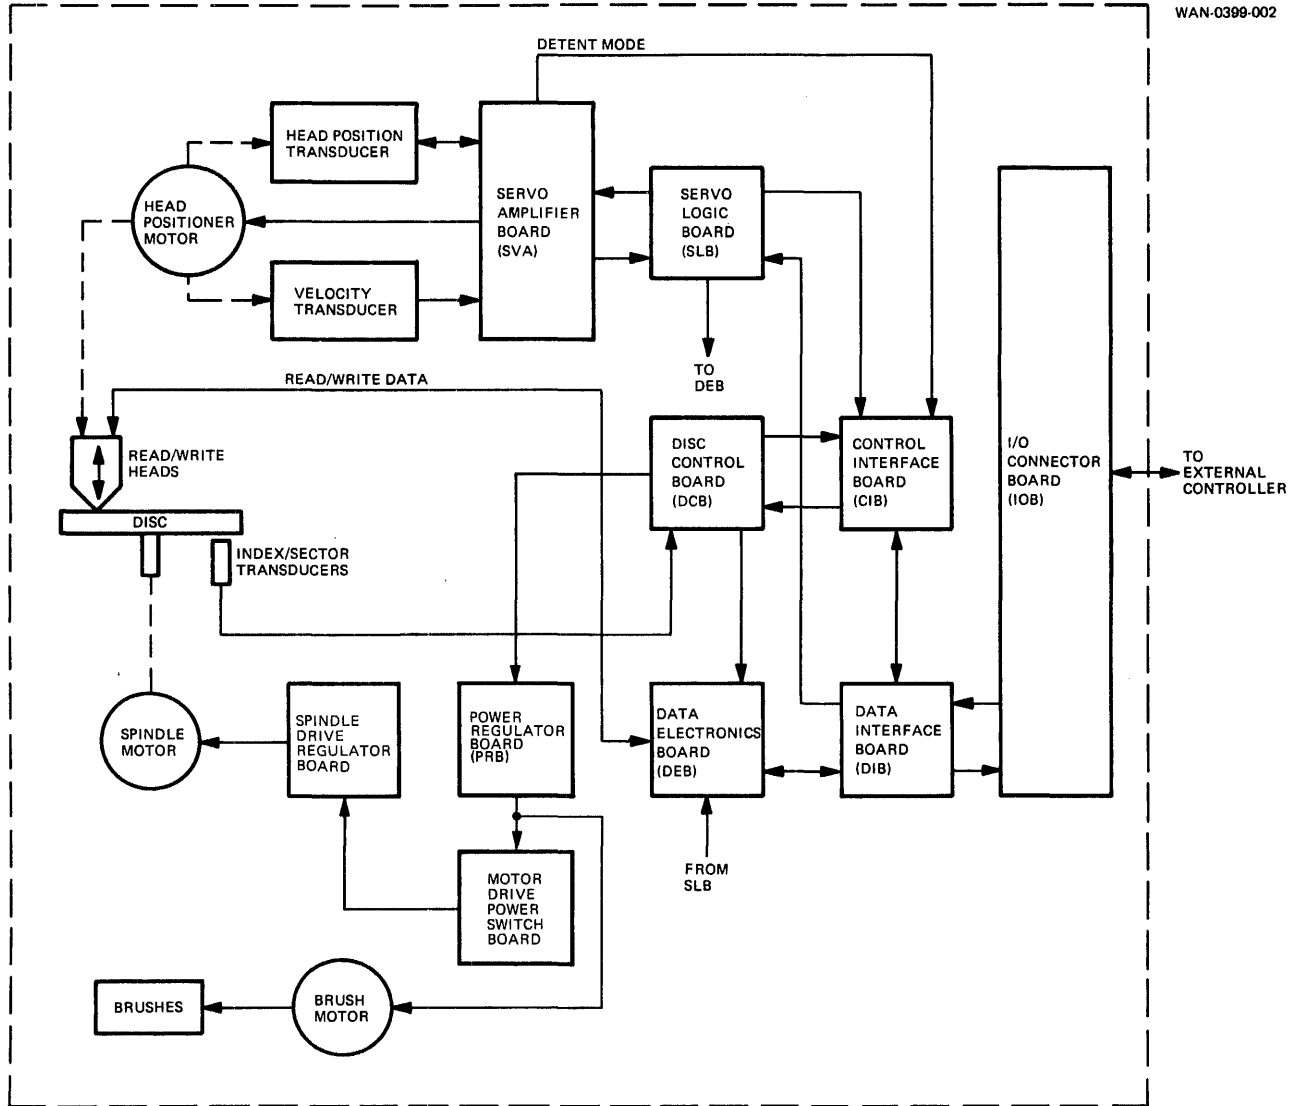
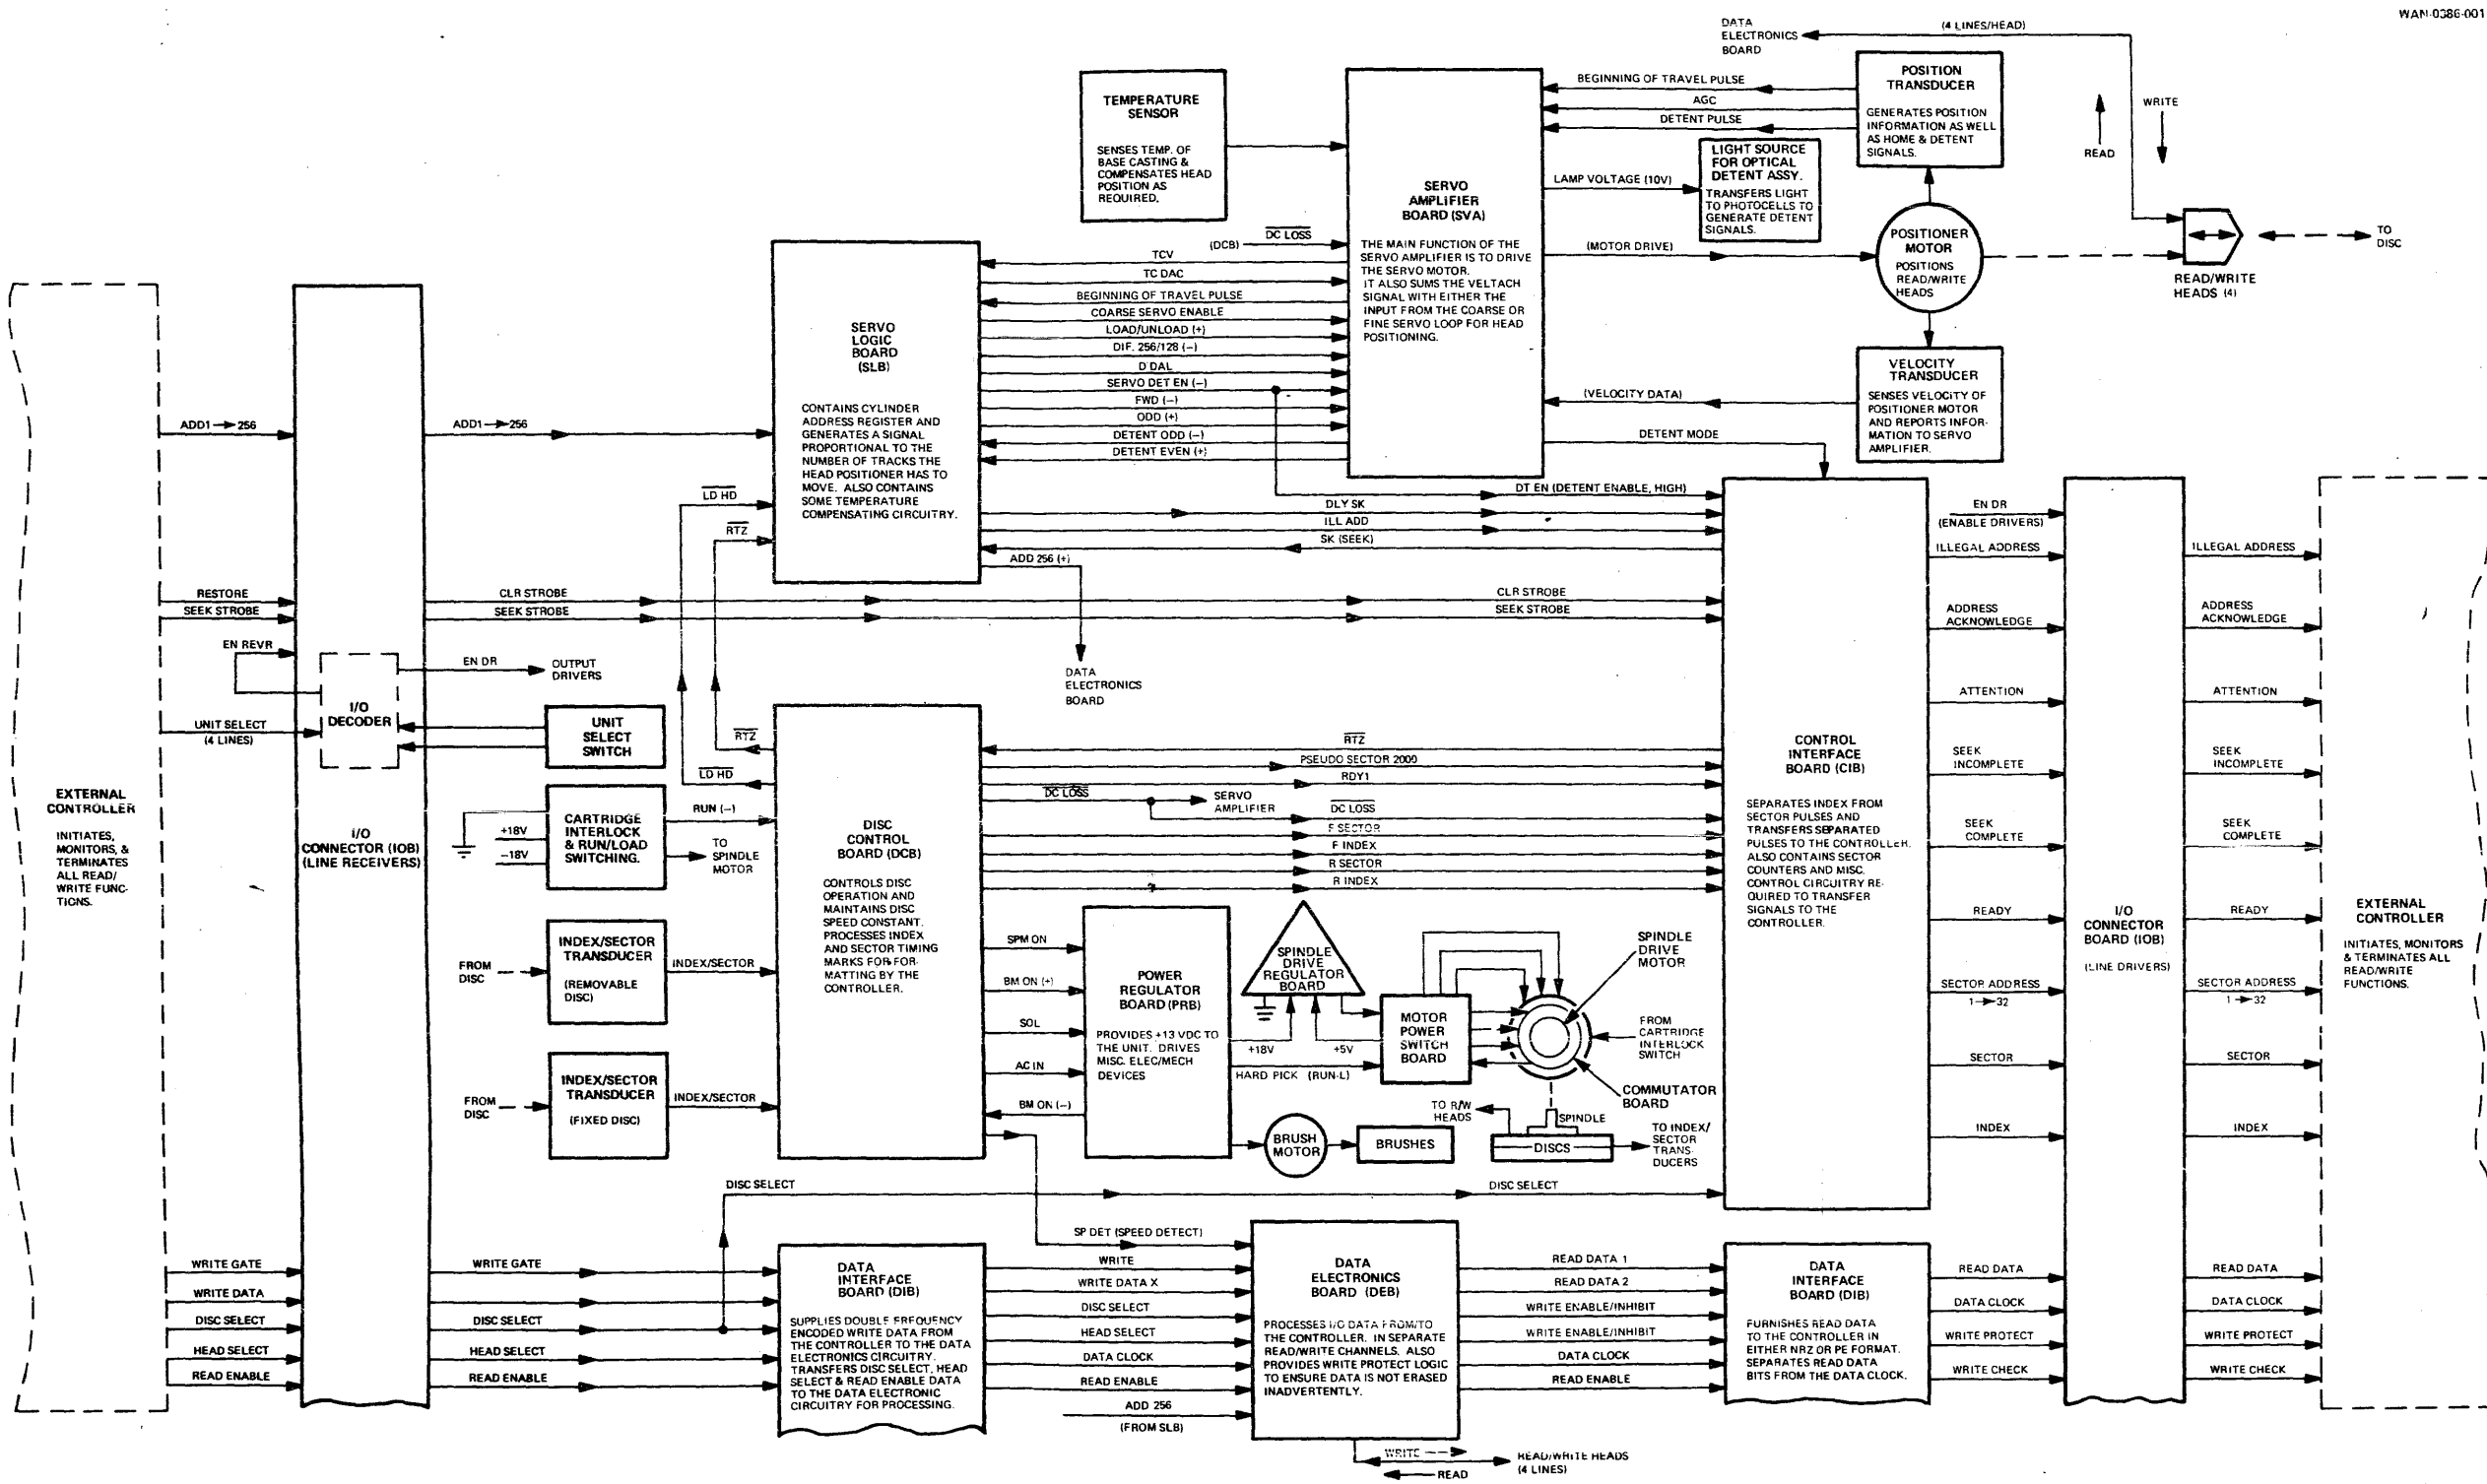

Figure 4-1. Simplified Block Diagram
Figure 4-7. Block Diagram – 100/200 TPI Disc Drive (major signal lines)
This section is divided into two principal parts: the mechanical operation theory and the electronic theory. Explanation of the mechanical features is included as a prerequisite to the theory of operation of the electronic circuits. The electronic theory portion of the section is further subdivided into a basic discussion of the system and is keyed to a functional block diagram followed by a circuit analysis of each major circuit board. The basic block diagram of the Disc Drive is shown in Figure 4-1.
4.4.1.2 Introduction to Circuit Theory. Figure 4-7 is a functional block diagram of the Disc Drive showing interconnecting signals and the functions performed by the circuit boards contained in the unit. The block diagram should be used as a reference when following the circuit functions described; in addition, the basic block diagram of the Disc Drive can be referred to (ref. figure 4-1). The mechanical operational theory also should be used as a reference.